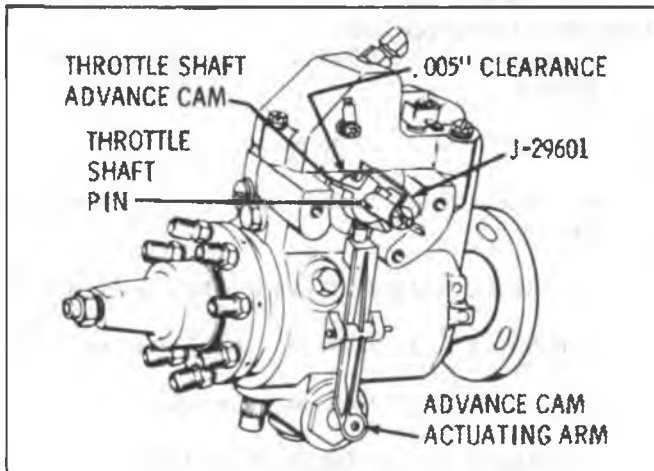

Fig. 2-25 Face Cam Tool, J-29601
9. (A.) On all models with external advance lever, install the tool J-29601 on the throttle shaft, tighten the thumb screw, and remove the tool and the vacuum switch drive pin (Fig. 2-25).
16. (A.) On all models without external advance, install the throttle shaft using new throttle shaft seals and lubricate. (B.) Install a new throttle shaft seal washer and reinstall retainer ring. (C.) Install new vacuum module drive pin. (D.) On external advance models, install tool J-29601 to position face cam and insert a .005" feeler gage between the white washer and housing (Fig. 2-25). Push throttle shaft into housing to remove clearance and torque face cam screw to 31 N-m (30 in. lbs. and secure with Loc-tite 290 or equivalent).